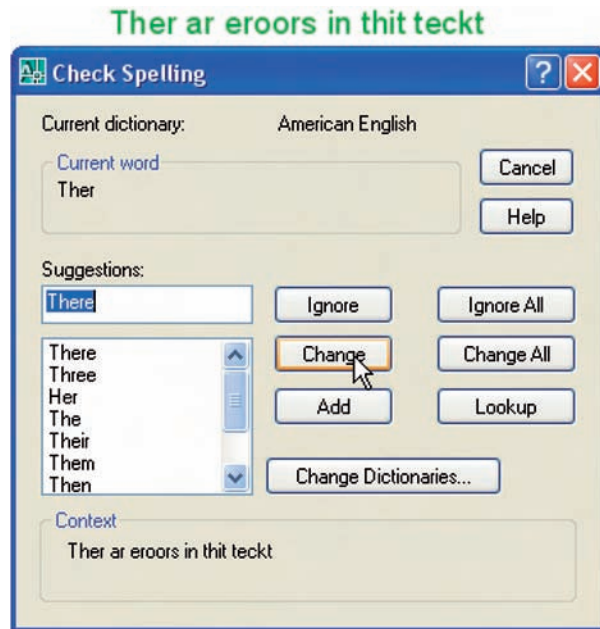

Fig. 6.41 Second example – the **Check Spelling** dialog
1. Enter some badly spelt text as indicated in Fig. 6.41.
3. Click the badly spelt text and *right-click*. The **Check Spelling** dialog appears (Fig. 6.41). Wrongly spelt words appear in the **Current work** field with words to replace them in the **Suggestions** field. Select the appropriate spelling as shown. Continue until all text is checked.